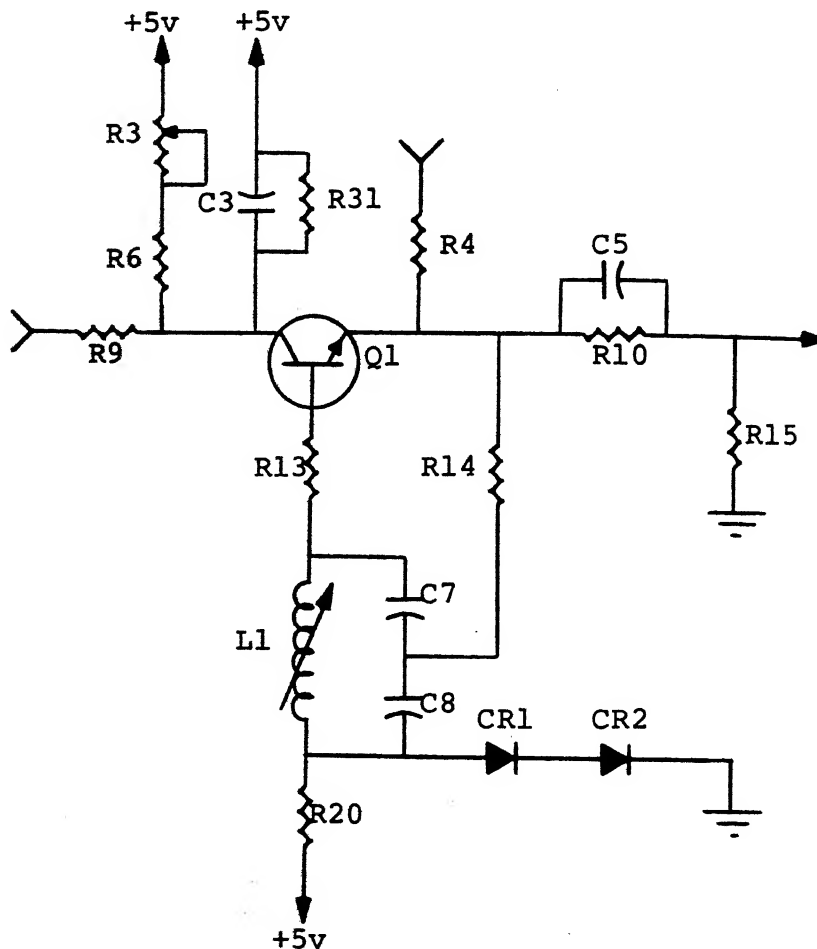

Figure 2 - SCHEMATIC OF GATED COLPITTS OSCILLATOR
6. Refer to figure 2. Q1 and its associated circuitry on the range marks generator card make up the gated Colpitts oscillator. The oscillator is made up of transistor Q1 and a parallel tank in the base circuit. The feedback to sustain the oscillations is applied to capacitors C7 and C8 from the emitter of Q1. The output of